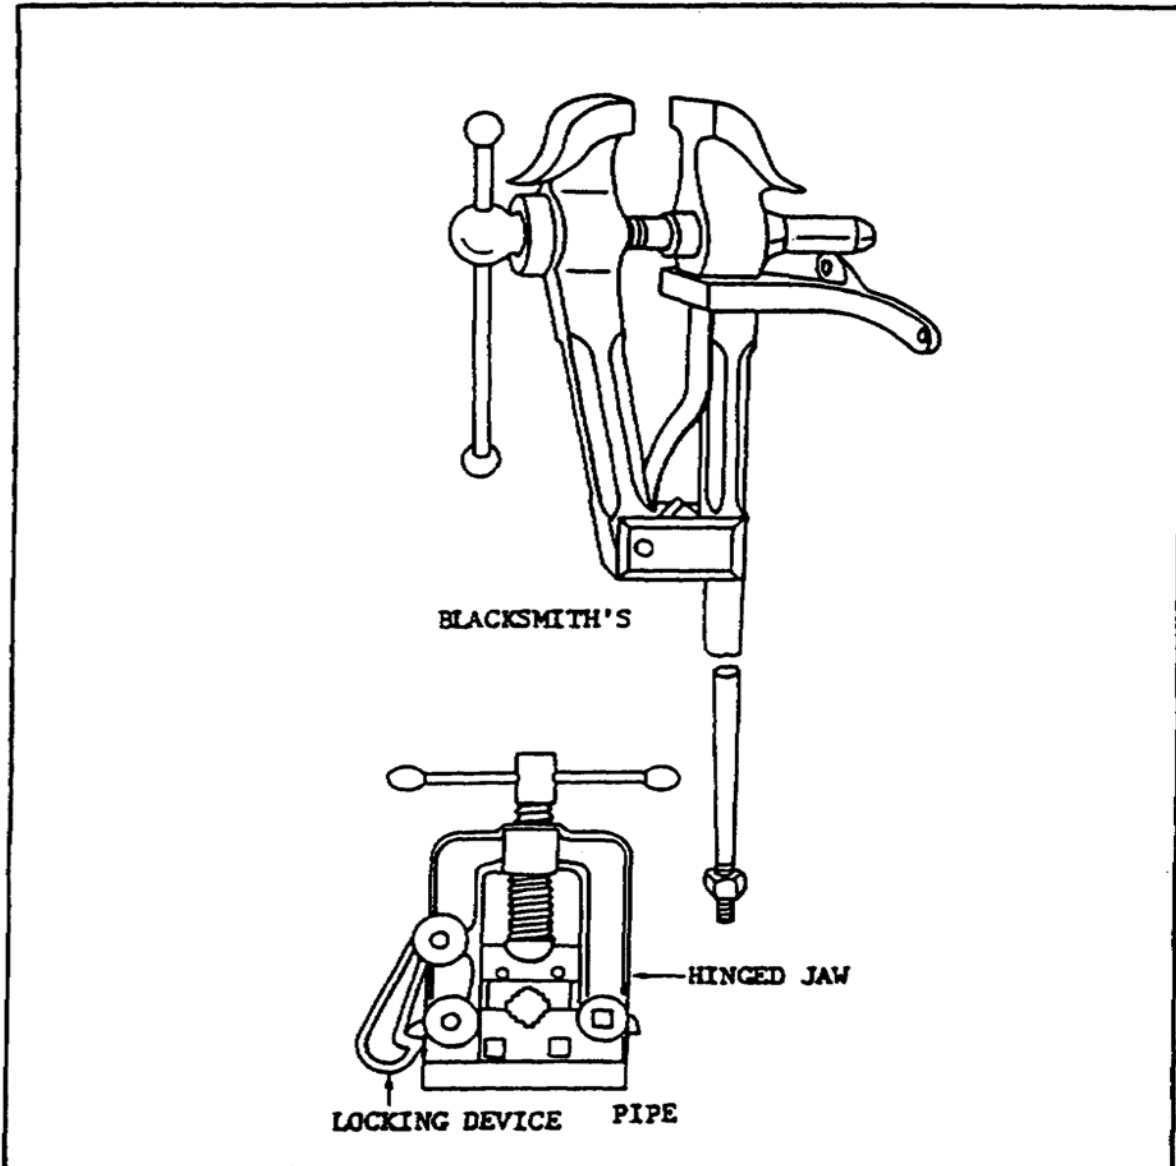

FIGURE 41. BLACKSMITH'S AND PIPE VISES.
(4) *Blacksmith's Vise*. The blacksmith's vise (figure 41) is used for holding work that must be pounded with a heavy hammer. It is fastened to a sturdy workbench or wall, and the long leg is secured into a solid base on the floor.
(5) *Pipe Vises*. A pipe vise (figure 41) is specifically designed to hold round stock. The vise shown has a capacity of 1 to 3 inches. One jaw is hinged so that the work can be positioned and the jaw then brought down and locked. This vise is also used on a bench. Some pipe vises are designed to use a section of chain to hold down the work. Chain pipe vises range in size from 1/8 to 2 1/2 inch up to 1/2 to 8 inch pipe capacity.